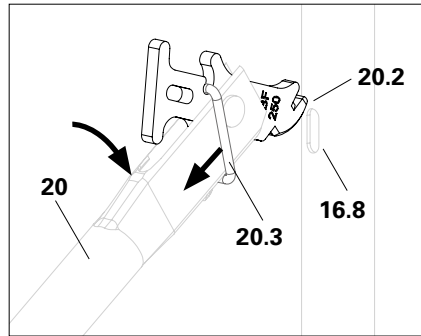
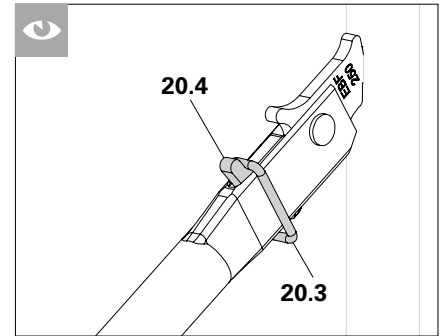

Fig. A5.03
Fig. A5.04
2. Lift the Face Brace EBF (20) on the other side up to the slot.
- (Fig. A5.03)
4. Press the Face Brace EBF (20) downwards and secure with the locking ring (20.3).
- (Fig. A5.04)